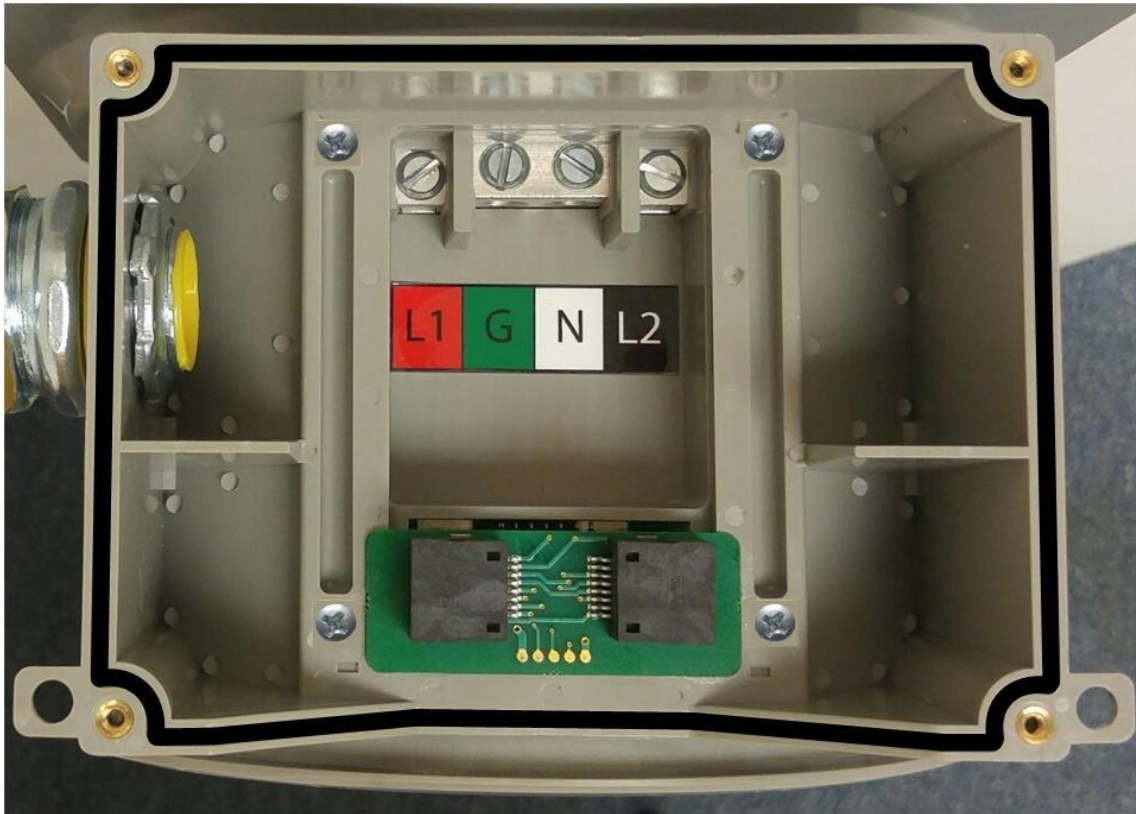

FIGURE 19
5. Install the junction box to the top of the ConnectDER™ unit using the Philips screws furnished with the unit. **Tighten the screws to 5 in/lbs. using a #2 Philips bit.** Make sure the seal is fully compressed and the box makes contact with the body of the terminal pocket. See **FIGURE 19**.